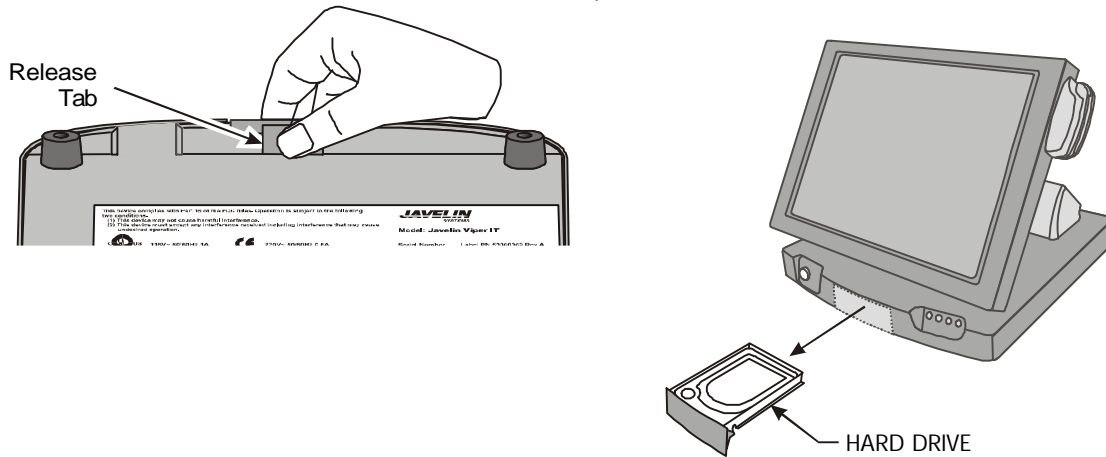

Figure 1.
5. Look between the upper housing and the motherboard. Locate and disconnect the display and audio connectors from the motherboard (refer to chapter 3, section 1.1.8, figure 1). Check for other cables routed through the tilt-stand to the motherboard. Note the locations of cables for reassembly.